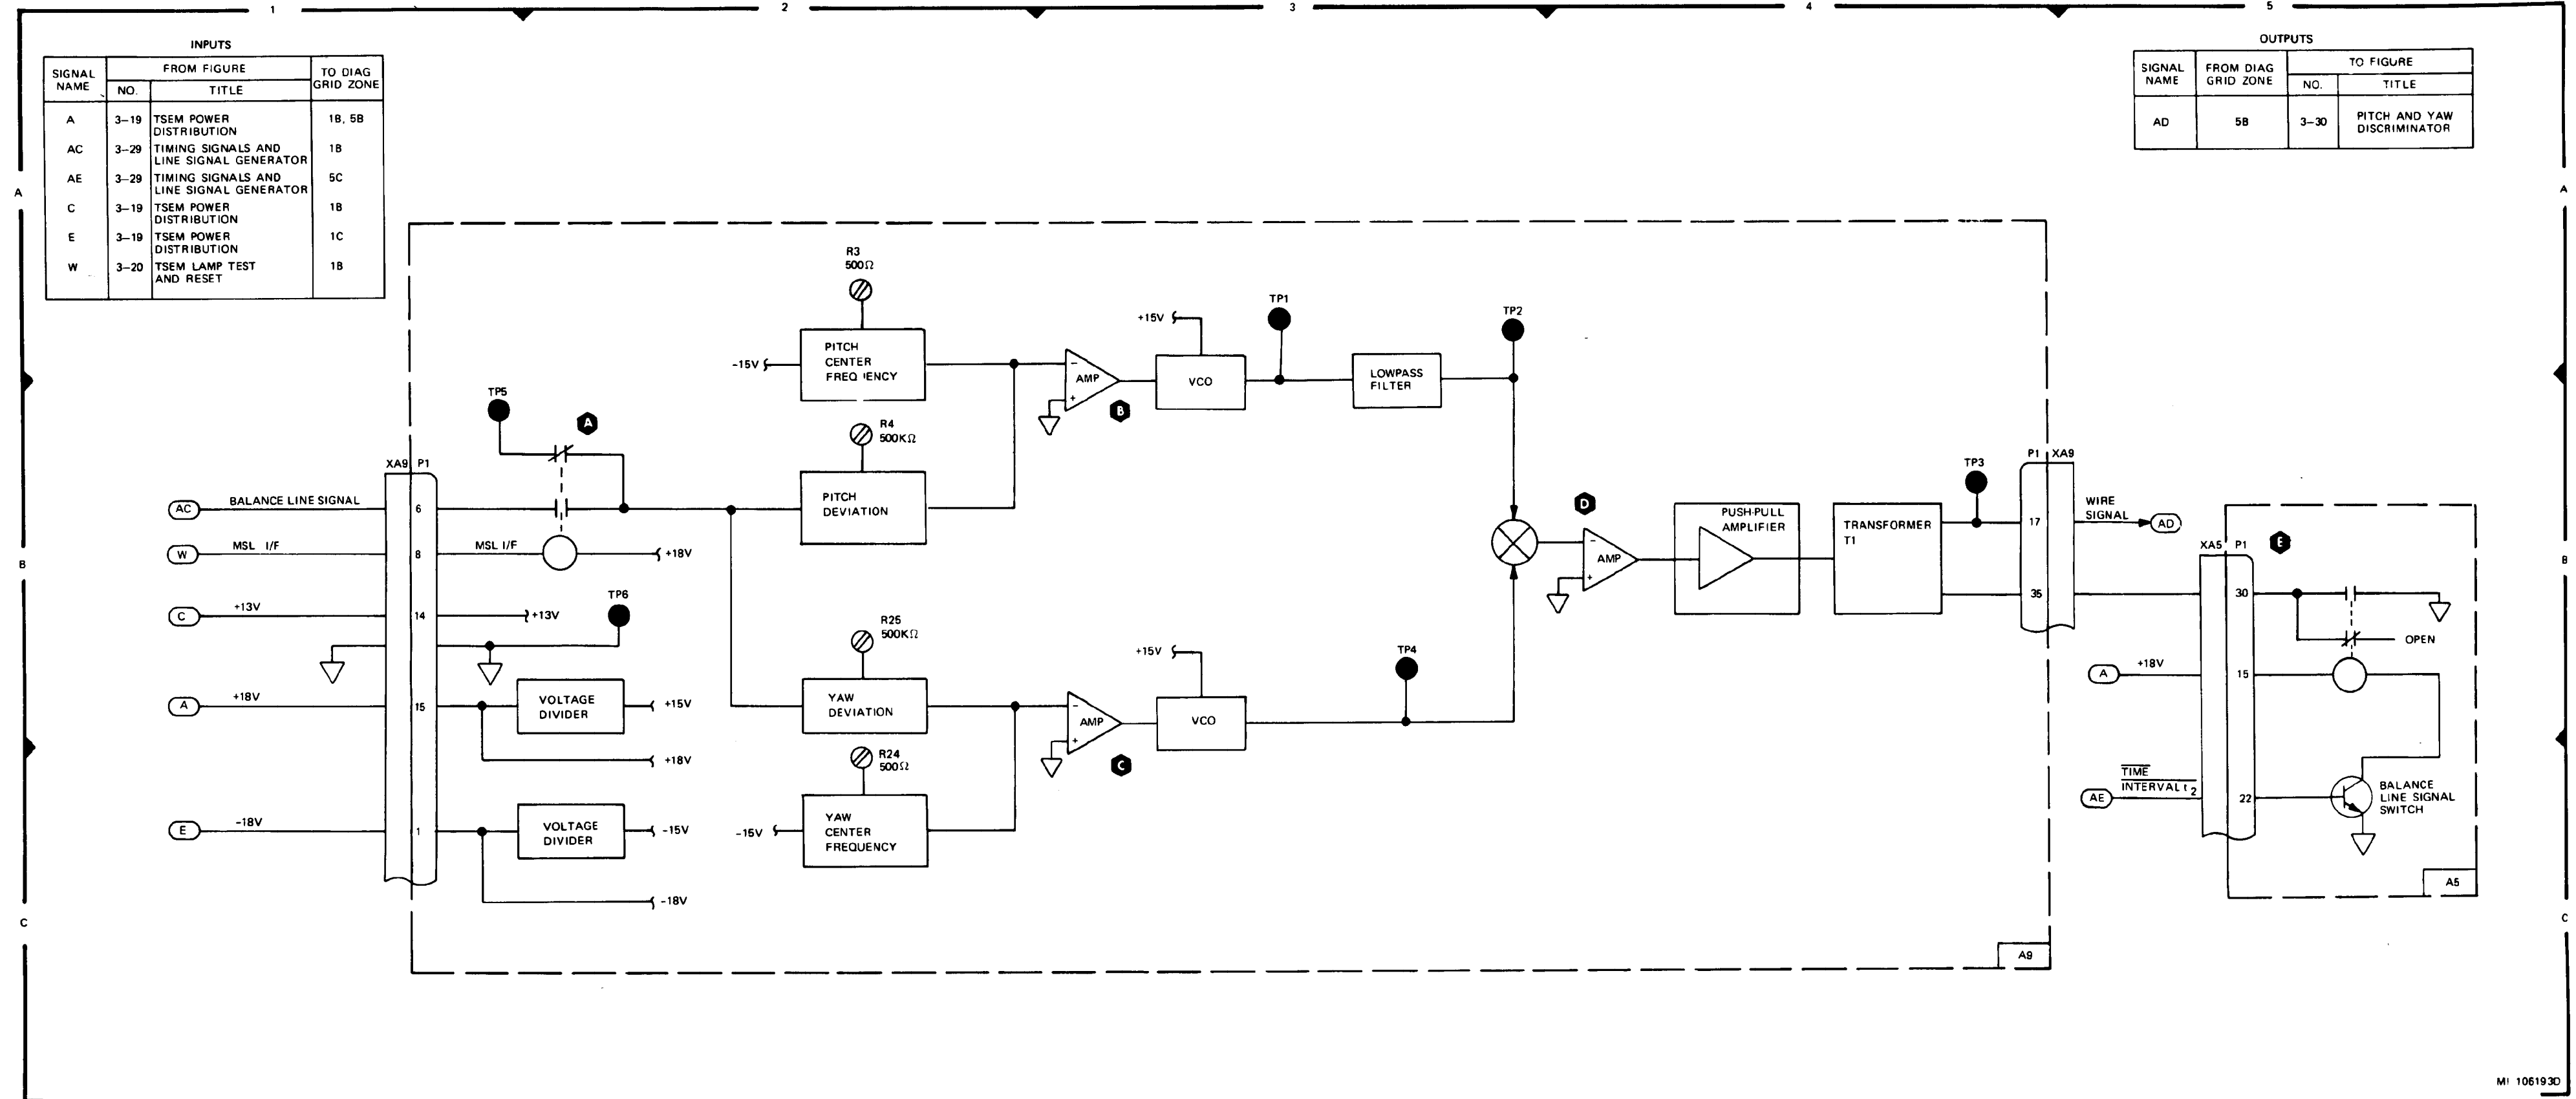

Figure 3-32. FM Wire Signal Generating Functional Diagram
n. FM Wire Signal Generating Function (Fig. 3-32). This function generates a FM wire signal consisting of pitch and yaw frequency components and a dc offset.
A9	Figure 3-32